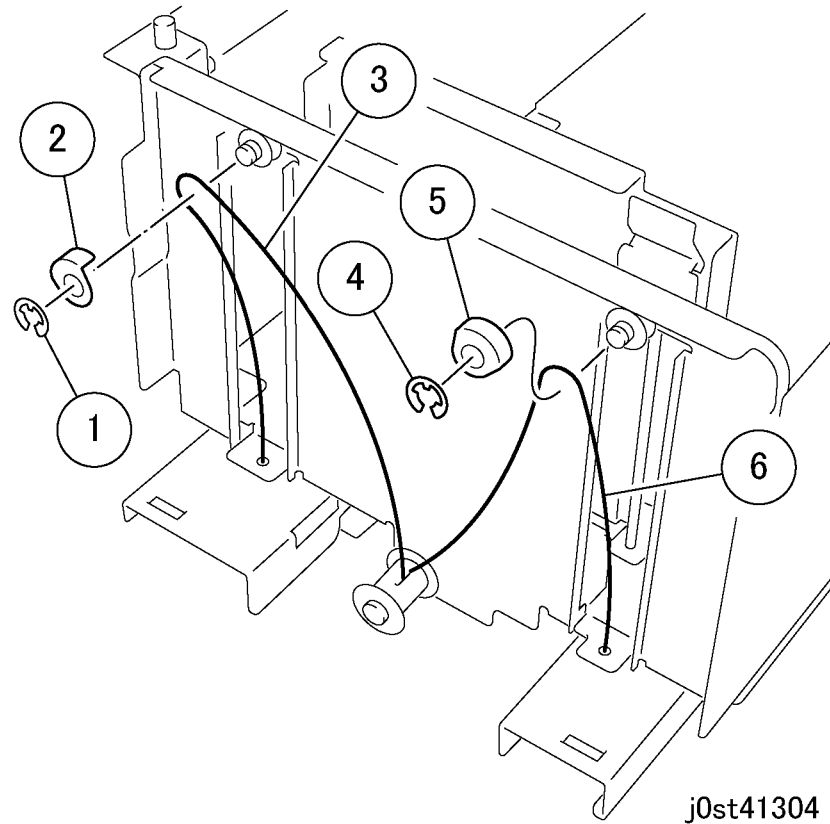

Figure 2 Removing the Tray Cable
3. Remove the Tray Cable. (Figure 2)